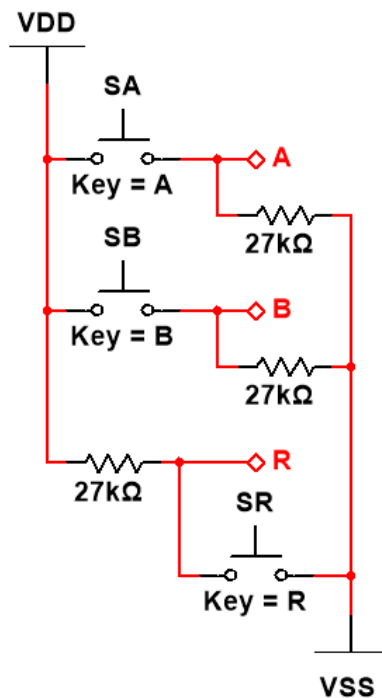

Figure 1: Realization of the signals A, B, and R in MULTISIM.
Using Multisim, verify the operation of the finite state machine for the multicolor LED glow baton realized in Problem Set 3, problems 9 and 10. Following Figure 1, generate the signals A, B, and R using normally open (NO) push buttons. When the button SR is pressed, the system must asynchronously return to the state S0. When the input to a CMOS logic gate is allowed to float, that is, it is neither connected to  $V_{DD}$  or  $V_{SS}$ , its logic level is unpredictable. For this reason, the  $27k\Omega$  resistors are included to pull the inputs to a valid logic level when a given button is not pressed, in specific, logic low for the input signals A and B, and logic high for the input signal R. Set up the switches SA, SB, and SR so that the user may change the signals A, B, and R using the keys A, B, and R, respectively, on the keyboard.